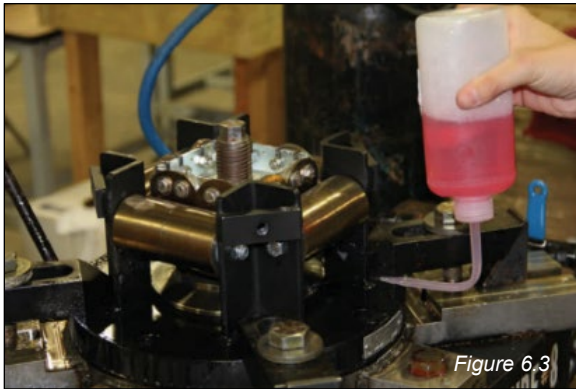
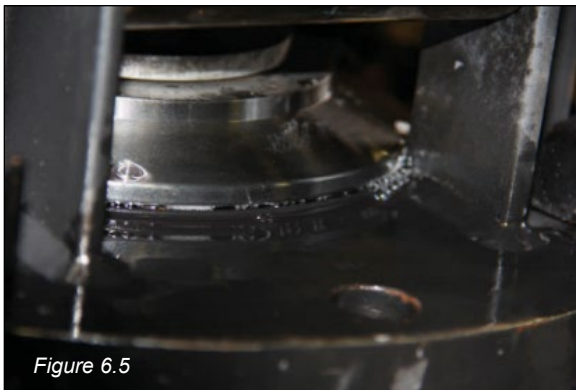

Figure 6.3
Figure 6.5
2. Spray the valve sealing disc with water or suitable leak test fluid until a continuous film of water is observed at the intersection of the sealing disc and the valve body (*Figure 6.3 & 6.4*). Maintain this film throughout the tests. Raise the pressure in the test stand until the first bubble is observed. The pressure at which this occurs is the start to discharge pressure (*Figure 6.5 & 6.6*).